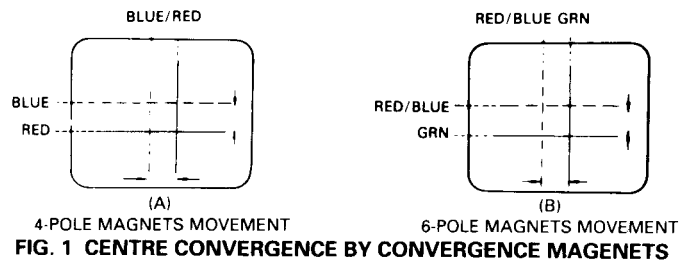

FIG. 1 CENTRE CONVERGENCE BY CONVERGENCE MAGNETS
- a. Locate the pair of 4 pole magnet rings. Rotage individual rings (Change spacing between tabs) to converge the vertical red and blue lines. Rotate the pair of rings (maintaing spacing between tabs) to converge the horizontal red and blue lines. (Refer to fig. 1 (A))
- b. After completing red and blue centre convergence, locate the pair of 6 pole magnet rings. Rotage individual rings (change spacing between tabs) to converge the vertical red and blue (Magenta) and green lines. Rotate the pair of rings (maintaining spacing between tabs) to converge the horizontal red and blue (Magenta) and green lines. (Refer to Fig. 1(B))